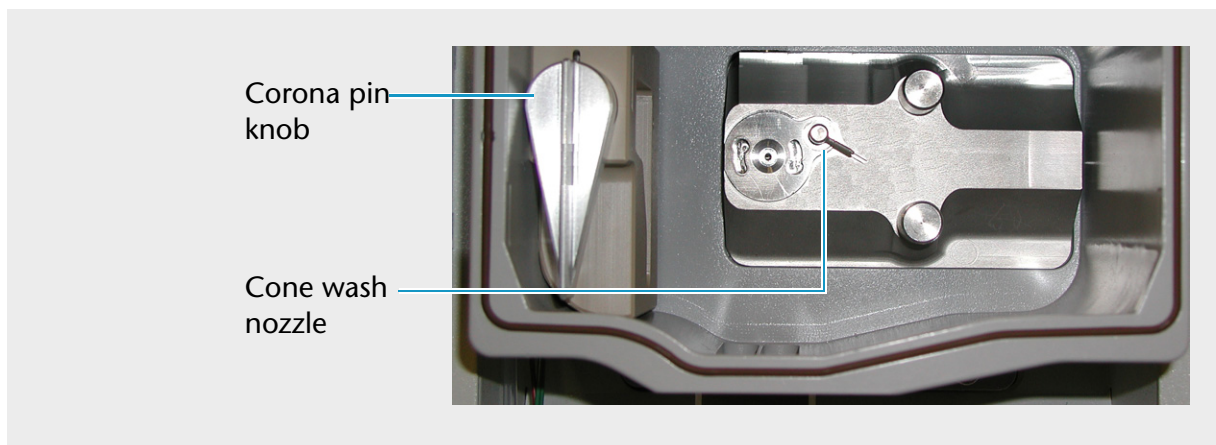

Fig. 71 Cone wash nozzle turned to the right in the source block
CAUTION! The corona pin is very sharp. Do *not* attempt to install the entrance cone or the cone wash nozzle before you turn the corona pin knob to its vertical position. See Figure 71.
2. Handling the cone wash nozzle by its base because the tip is fragile, insert the cone wash nozzle (part number A66539) into the source block, and carefully rotate the nozzle tip to the right. Lubricating the O-ring with a little methanol helps the insertion process. See Figure 71.